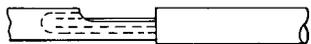

FIGURE 12.
- b. *Skinned End Inserted Without Fold* (Figure 12): When soldering connections to cutaway tubular terminals such as on U.S. Components Co. plugs and connectors, insert the wire into the tubular portion of the terminal and fill the cutaway portion with solder.